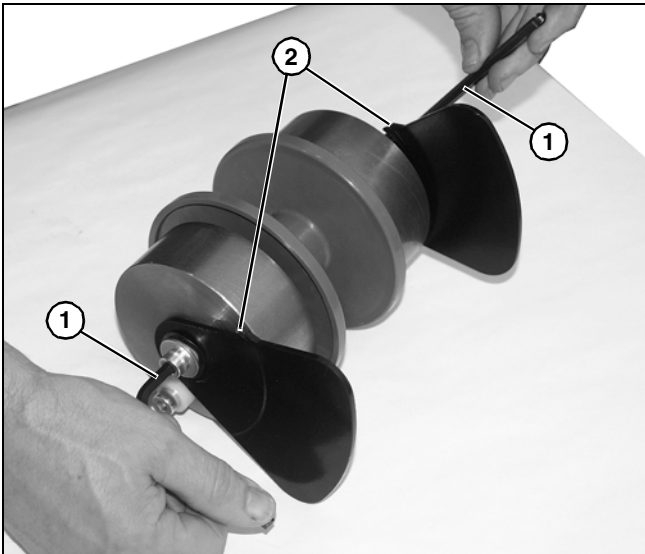

**Figure 85**
- Remove two weights (**Figure 85, item 1**) from each side of pulley (**Figure 85, item 2**).